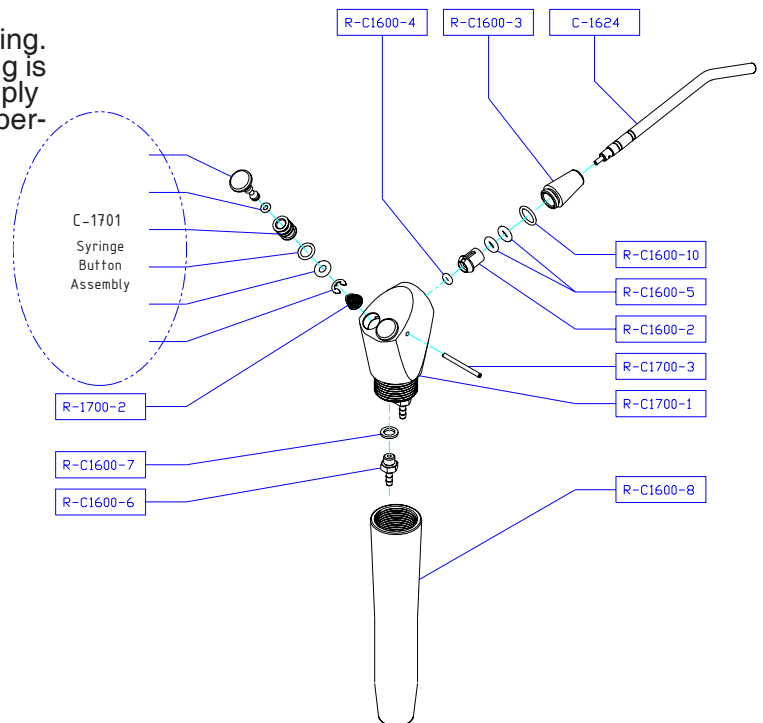

Figure 2. Syringe.
2. Replace the tip by inserting a new one into the tip socket, and firmly pushing into place until you feel it softly "pop" into place. To ensure it has been fully inserted, the uppermost small groove on the tip shank must be just visible over the end of the socket. *See Figure 2*
Solution: Replace the button assembly # C-1701 (See figure 2). Turn water and air supply off. Depress air and water buttons on Syringe to relieve residual pressure. Hold both buttons down and use a paperclip to push cross pin out of syringe head. Gently remove button from head, being careful not to lose conical spring beneath. To install new button, ensure that conical spring is seated with the small end pointing up. Gently push into place and hold both buttons down firmly while re-inserting cross-pin.
Solution: Ensure tip is properly and fully inserted. If so, replace O-ring #R-C16004 (See Figure 2). Twist conical tip socket assembly (R-C21600-3) off of syringe head to access this O-ring. When re-installing tip socket assembly, hand tighten only. If tip cannot be fully inserted, then socket is too tight.